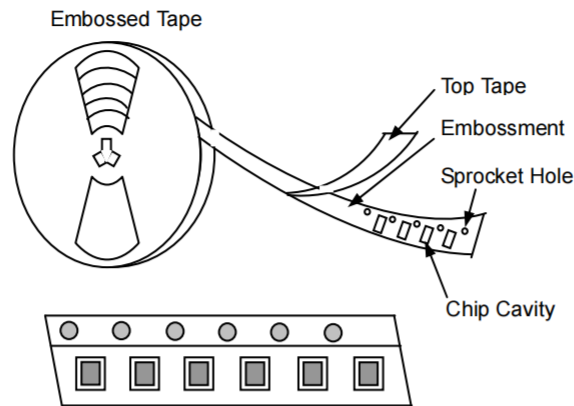

Fig. 7.1-1
- Tape carrier packaging are specified in attached figure **Fig.7.1-1~4**